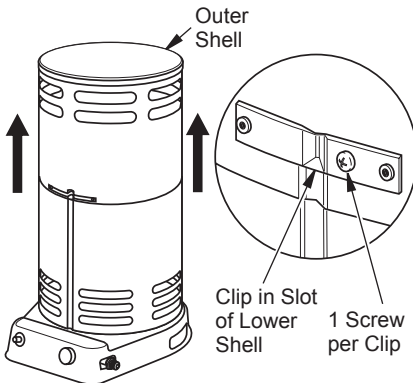

Figure 2 - Lifting Outer Shell
1. Care must be taken to protect hands during this step. Lift outer shell straight up as shown in Figure 2, until all three clips engage slots in lower shell. Screw holes will line up at this point.
2. Lock clips into place with 3 screws (1 per clip) as shown in Figure 2. The heater must not be operated unless the outer shell is properly extended and fully locked into place.